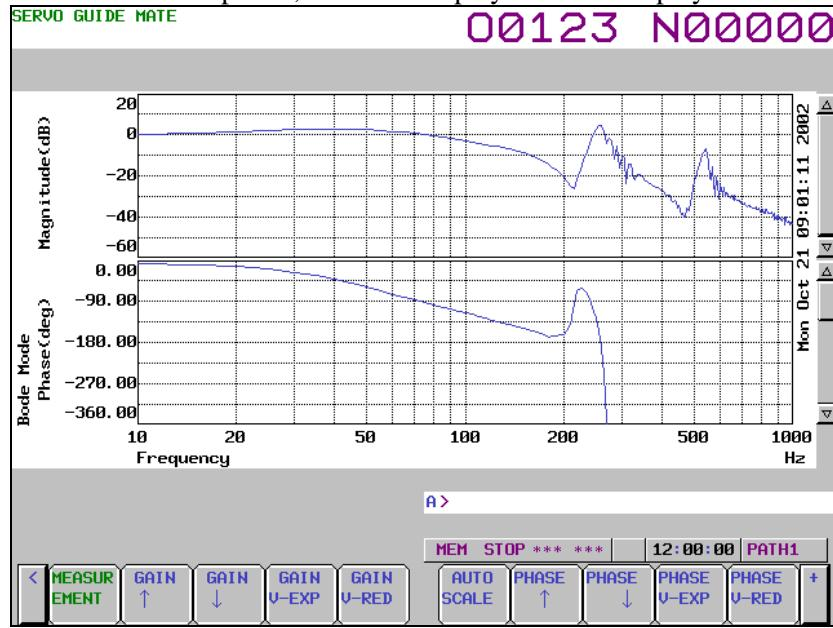

Fig. 1.9.1.5 (f)
- 28 When the measurement is completed, the wave display screen is displayed as shown Fig. 1.9.1.5 (f).